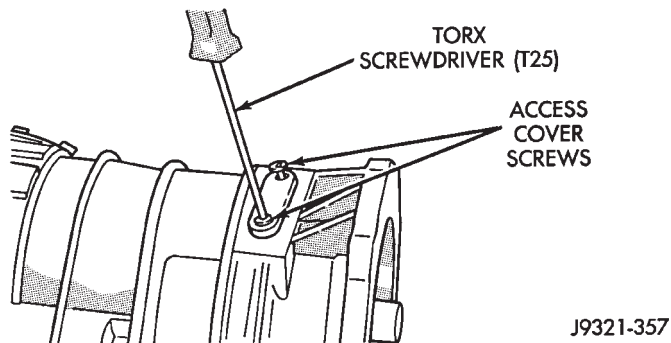

Fig. 201 Access Cover Screw Removal/Installation
(3) Remove Torx head screws that attach access cover and gasket to overdrive case (Fig. 201).